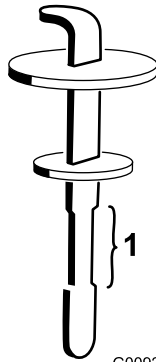

Figure 128
- Remove the dipstick from the filler neck and wipe it with a clean rag. Insert the dipstick into the filler neck, then remove it and check the fluid level (Figure 128).